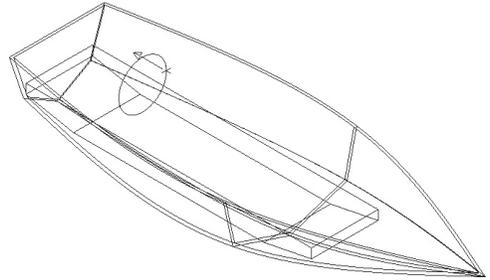

Fig. 12
Step 8. The direction arrow the chain should **point back**, **Fig. 12**. If the arrow points in the wrong direction, click Reverse It.